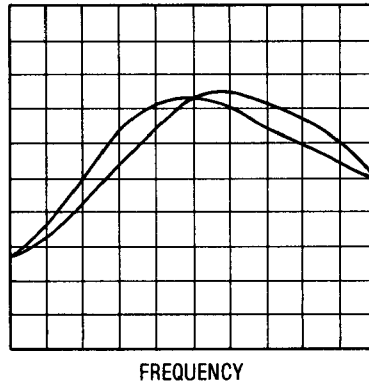

Figure 5-12. Optimum YTM Response, 2 to 12 GHz
13. Adjust A1A8R46, BD1 LO, at 2 GHz to center the peak of the YTM response as shown in Figure 5-12. The display may show a retrace pattern due to hysteresis in the YTM circuitry. The center of the filter passband is halfway between the peaks of the two displayed signals.